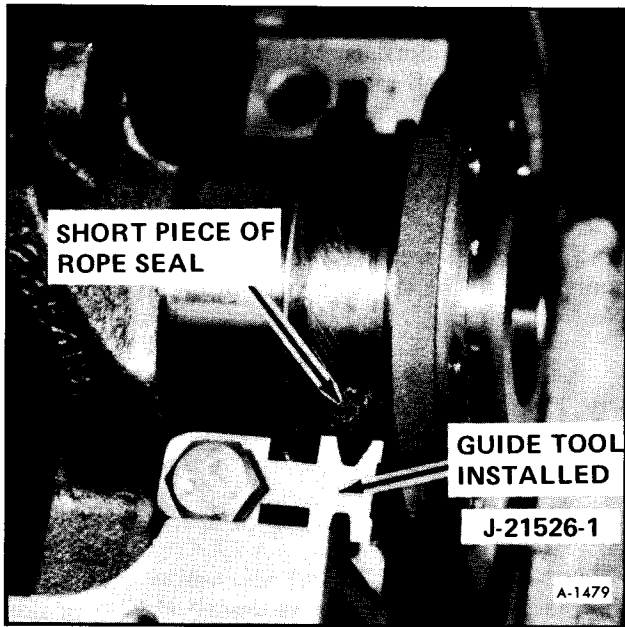
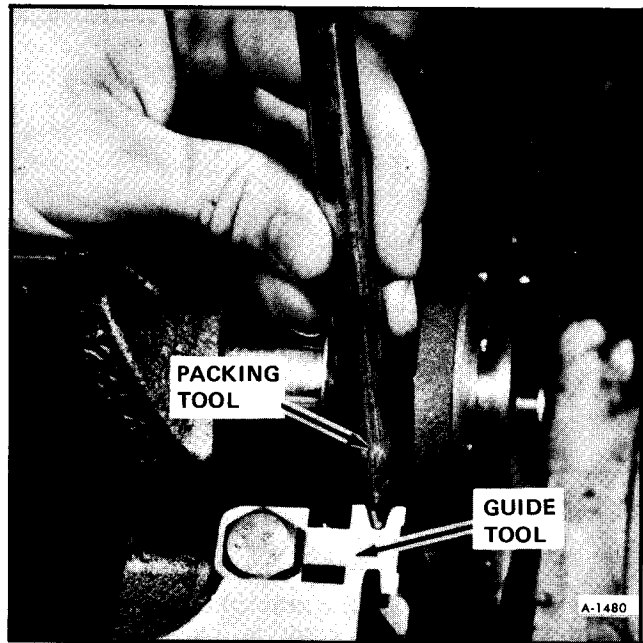

Figure 73—Guide Tool Installed
Figure 74—Packing Seal Into Guide and Cylinder Block
6. Work these two pieces of seal into the cylinder block (one piece on each side) with two small screwdrivers. Use guide tool J-21526-1 as shown in Figure 73. Using packing tool, pack these short pieces up into the block. See Figure 74.